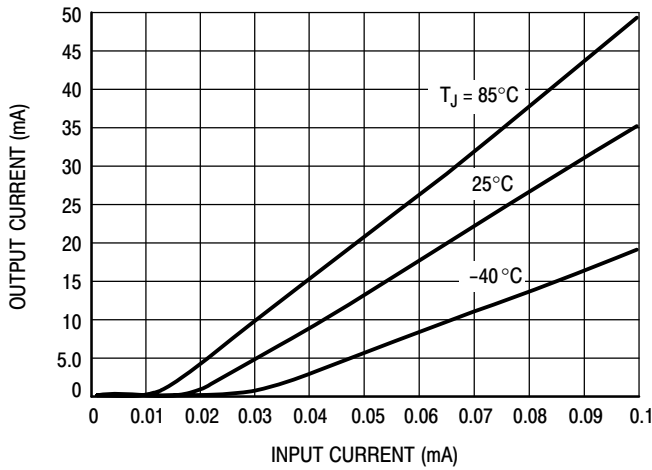

Figure 4. Threshold Effects
5. For levels of input current below $100\ \mu A$, use the input threshold curves of Figure 4 to verify that there will be adequate input current available to turn on the MDC3105 at all temperatures.